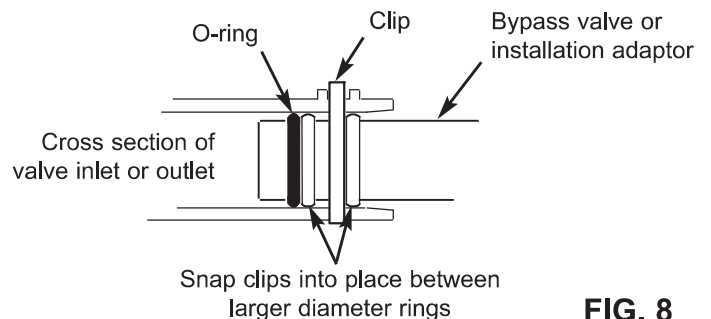

FIG. 8
- d. Snap the two large plastic clips in place on the inlet and outlet ports, from the top, down (See Figure 8). Be sure they snap into place. Pull on the bypass valve or installation adaptors, to make sure they are held securely in place.